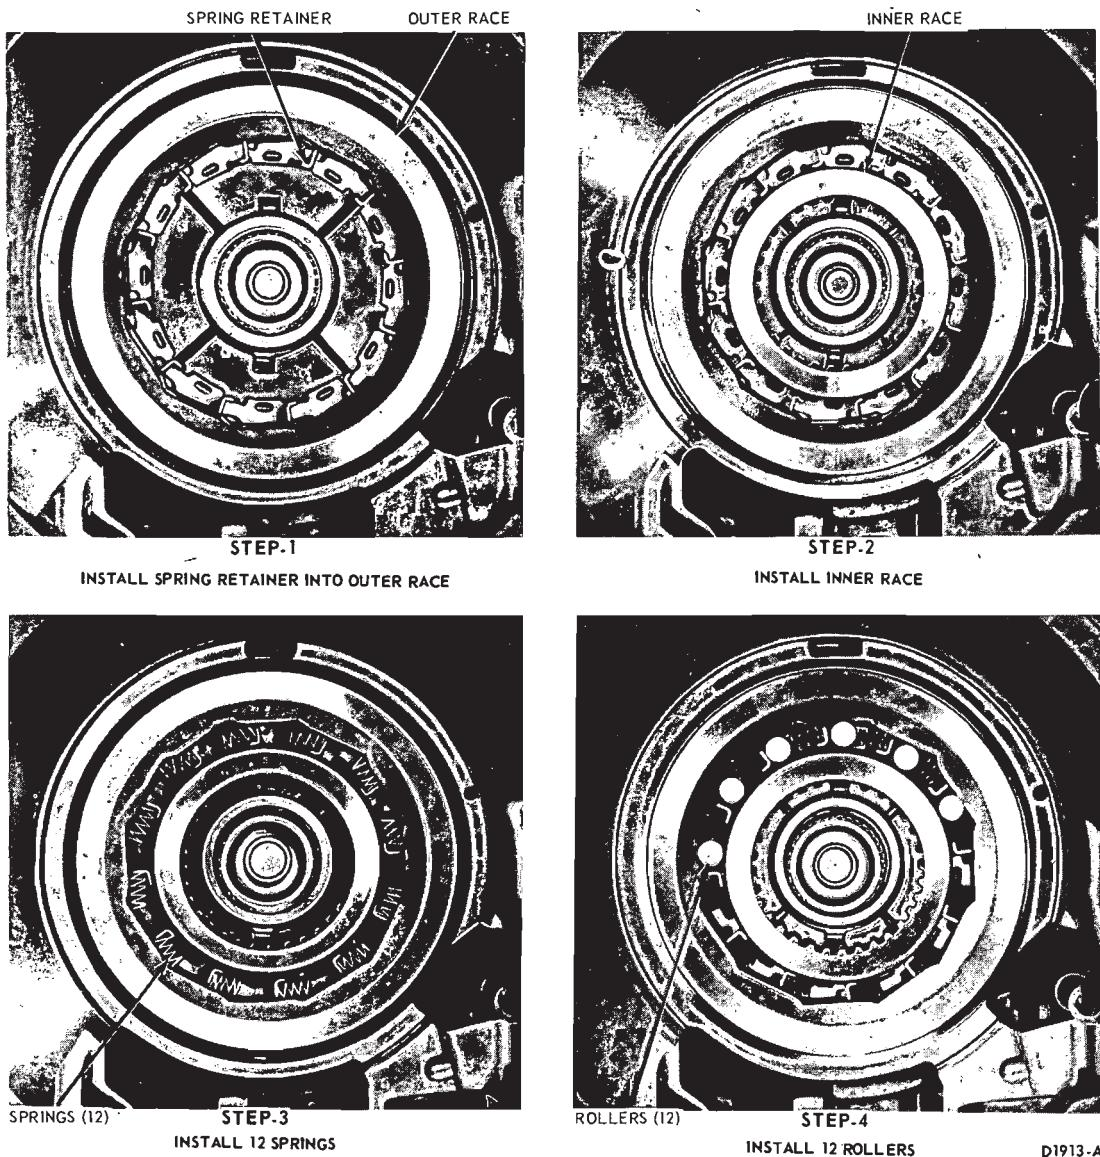

FIG. 101—Installing One-Way Clutch
12. Install the one-way clutch spring retainer into the outer race (Fig. 101).
14. Install the individual springs between the inner and outer race as shown in Fig. 101.